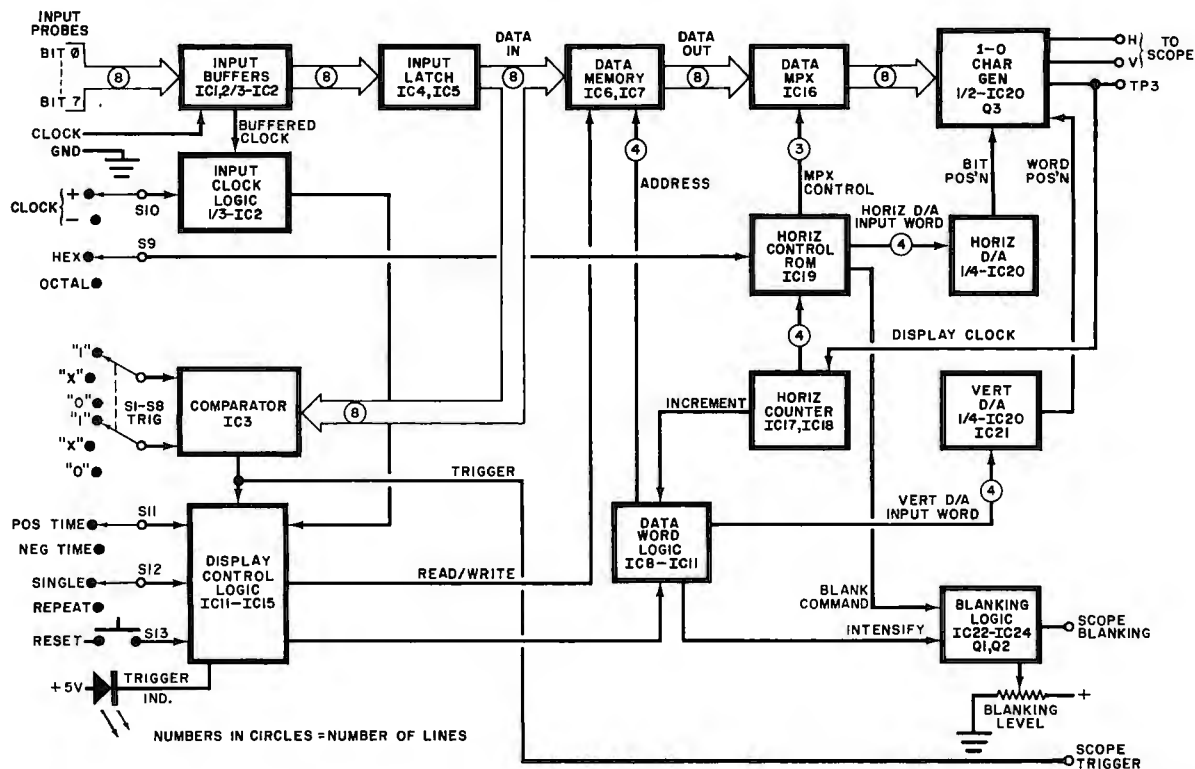

Fig. 2. Block diagram of analyzer shows basic signal routing.
**Circuit Operation.** Operation of the analyzer can best be understood by referring to the block diagram of Fig. 2.